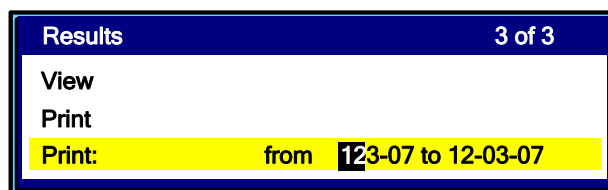

Figure19 – Print with selecting period time
4.6.4.1 In waiting mode, press «*», select menu item «**Results**» → «**Print**» and press «**Mode**». The tester enters the mode print with selecting period time (see figure 19)